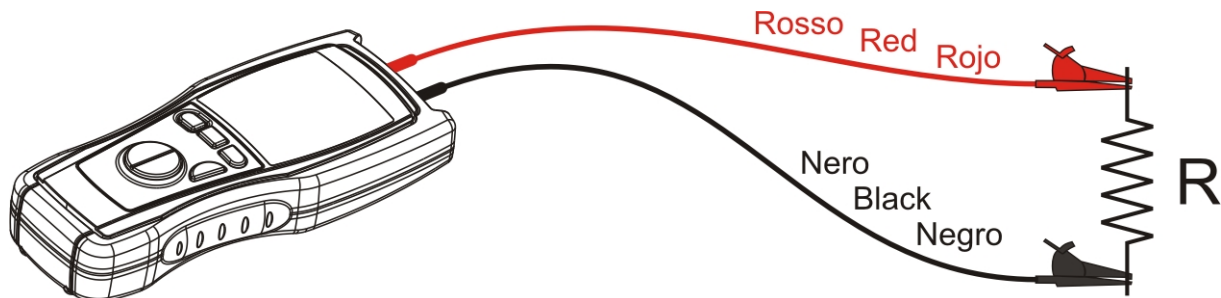

Fig. 4: Connection of the instrument's terminals during  $\Omega$  test
5. Position the test probes on the desired points of the circuit under test (see Fig. 4)